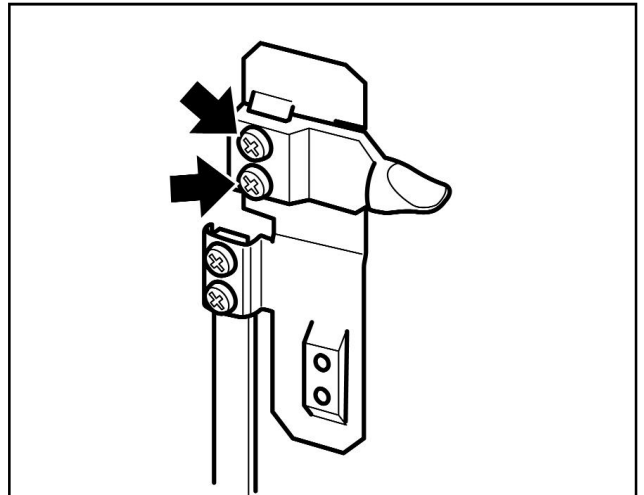

Figure 28. Slider button removal (Setup may differ from that shown)
3. Detach the control slide button from the extension bracket by removing two screws (See figure 28).